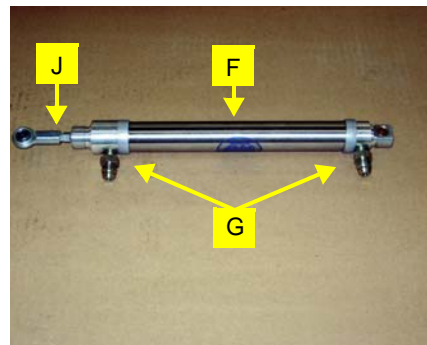

Figure 6a: Assembly steering cylinder
- a. Install adapter fitting (G) into the two ports located on the hydraulic cylinder (F). (Figure 6a) Use teflon thread sealant on the NPT ends of the adapter fittings (G) prior to installing in the hydraulic cylinder. No other hydraulic connections in this installation require teflon sealant.
- b. Install the cylinder rod end swivel (J) to the rod end of the cylinder. (Figure 6a)